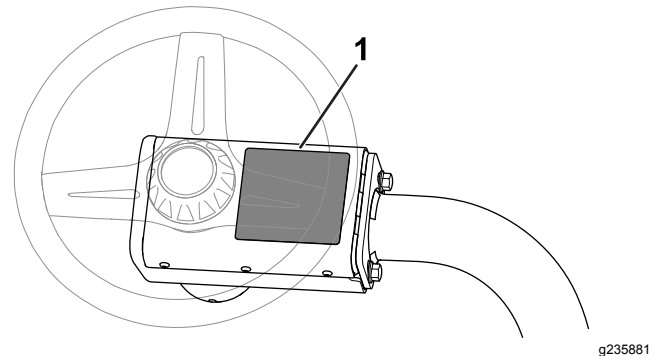

Figure 16
- Apply the CE warning decal (Part No. 136-8505) over the existing warning decal (Part No. 136-8506); refer to Figure 16.